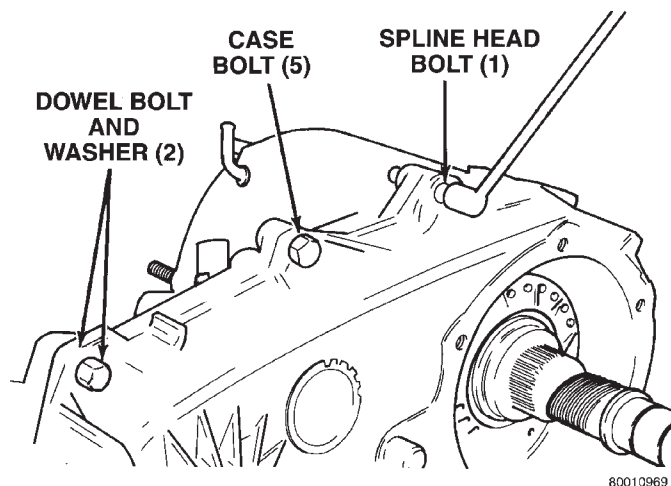

Fig. 13 Spline And Dowel Bolt Locations
(11) Remove bolts attaching rear case to front case. A 10 mm, 12 point socket is needed for the spline head bolt (Fig. 13). Note position of the two black finish bolts at each end of the case. These bolts go through the case dowels and require a washer under the bolt head.